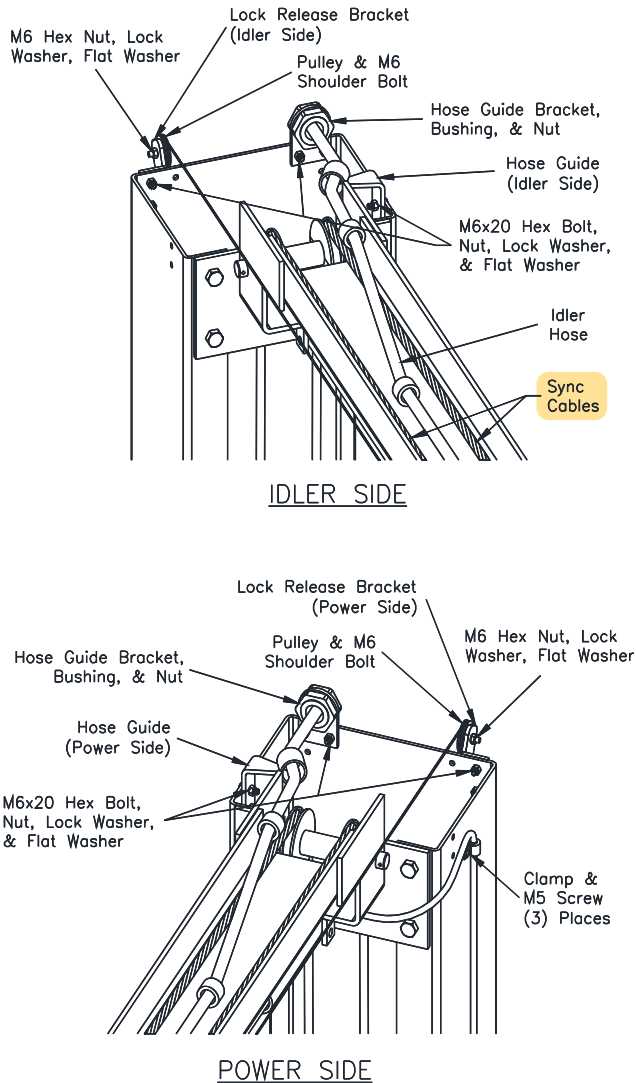

Fig. 5 – Column Extensions
19) Hoses, cables, and limit switch cord should be routed as shown in Fig. 5.
- 24) Beginning on the idler side, attach the idler extension hose to the cylinder elbow fitting (This hose has a male fitting on one end and is removed for reduced height installations). Continue with the idler hose (long) up the backside of the column and thru the plastic guide at the top of the extension. Continue across the overhead through each of the guides as shown in Fig. 5 and down the backside of the power column.
- 25) Route the power hose from the cylinder elbow fitting to the union tee provided. Connect idler hose and power unit hose to union tee as shown in Fig. 5.
- 27) Use hose clamps and M5 Screws to secure hydraulic hoses and limit switch cord as shown in Figures 5 & 6.